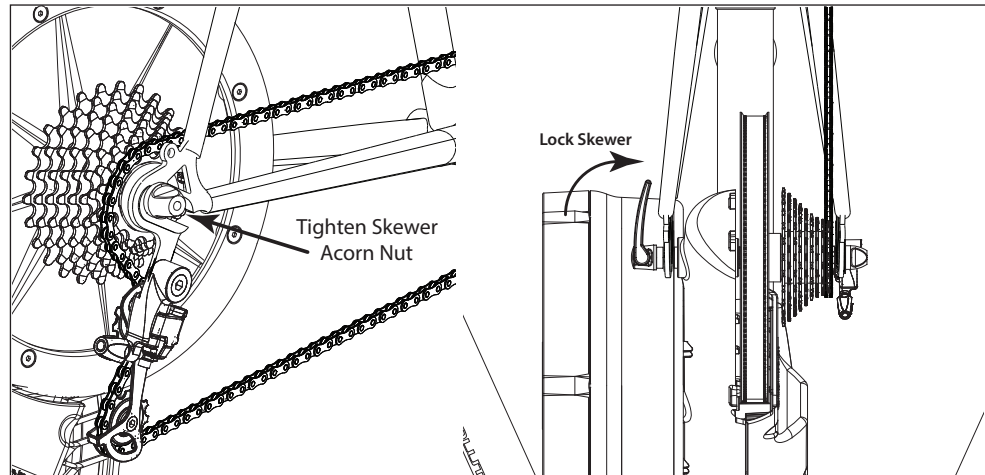

FIGURE 2.4
7. Tighten the acorn nut on the quick release skewer while holding the lever on the opposite side and lock the skewer with the lever. (Figure 2.4)